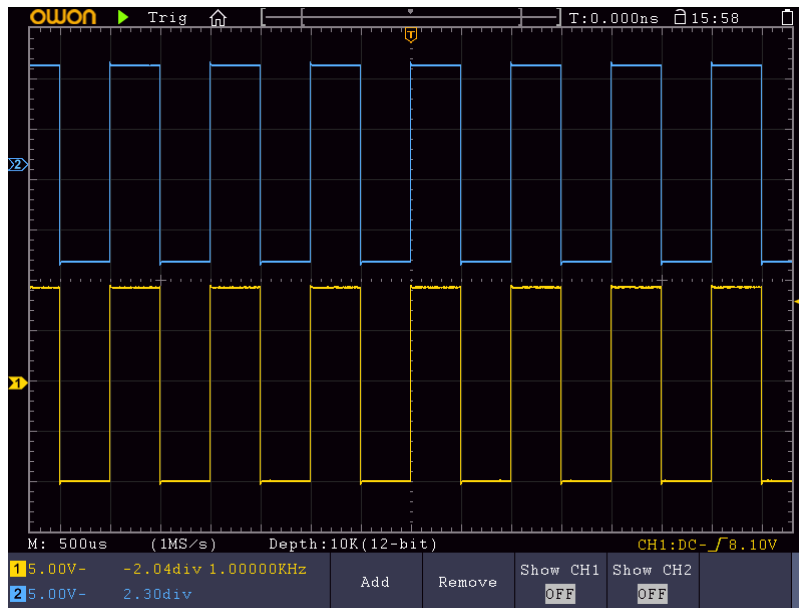

Figure 9-2 Waveform of Gain Measurement
- (1) Push the **Autoset** button and the oscilloscope will automatically adjust the waveforms of the two channels into the proper display state.
- (2) Push the **Measure** button to show the Measure menu.
- (3) Select **Add** in the bottom menu.
- (4) In the right menu, select **CH1** in the **Source** menu item.
- (5) In the left Type menu, turn the **M** knob to select **PK-PK**.
- (6) In the right menu, select **Add**. The peak-to-peak type of CH1 is added.
- (7) In the right menu, select **CH2** in the **Source** menu item.
- (8) In the left Type menu, turn the **M** knob to select **PK-PK**.
- (9) In the right menu, select **Add**. The peak-to-peak type of CH2 is added.
- (10) Read the peak-to-peak voltages of Channel 1 and Channel 2 from the bottom left of the screen (see *Figure 9-2*).
- (11) Calculate the amplifier gain with the following formulas.